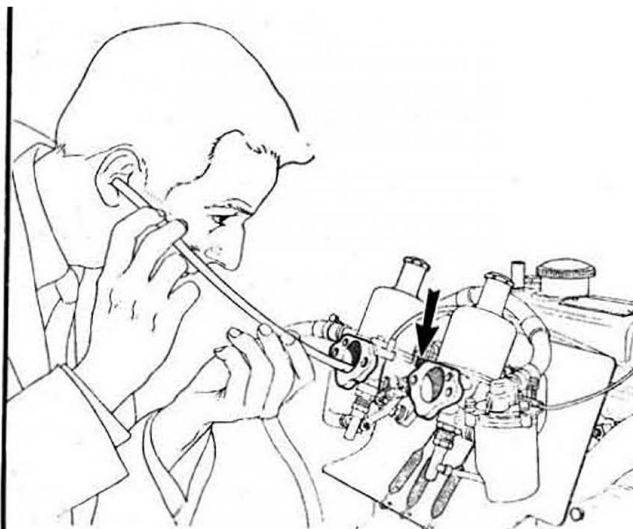

Fig.3.29. Balancing the S.U. carburettor
- 2 Remove the suction chambers from the carburettors and screw out both mixture screws (B) until the tops of the jets are flush with the jet bridge in each carburettor body.
- 5 Screw in the slot running volume screws (A) until they meet their seatings and then unscrew each of the screws 2½ turns.
- 7 Now the carburettors must be balanced (synchronised) by adjusting on the slow running volume screws (A) until they are sucking equally. This can best be judged by applying a balance meter to the carburettor air inlet and adjusting on the screws until the readings are the same. Alternatively, listen to the "hiss" of each carburettor (use a piece of tube as illustrated in Fig.3.29, a piece of old bicycle tube is ideal and adjust on each of the screws (A) until it is judged that the hiss from each carburettor is the same.
- 13 Now the carburettors must be balanced (synchronised) by adjusting the throttle adjusting screws until they are sucking equally. This can best be judged by applying a balance meter to the carburettor air inlet and adjusting the screws until the readings are the same. Alternatively, listen to the "hiss" of each carburettor (use a piece of tube as illustrated in Fig.3.29, a piece of old bicycle tube is ideal) and adjust on each of the screws until it is judged that the hiss from each carburettor is the same.